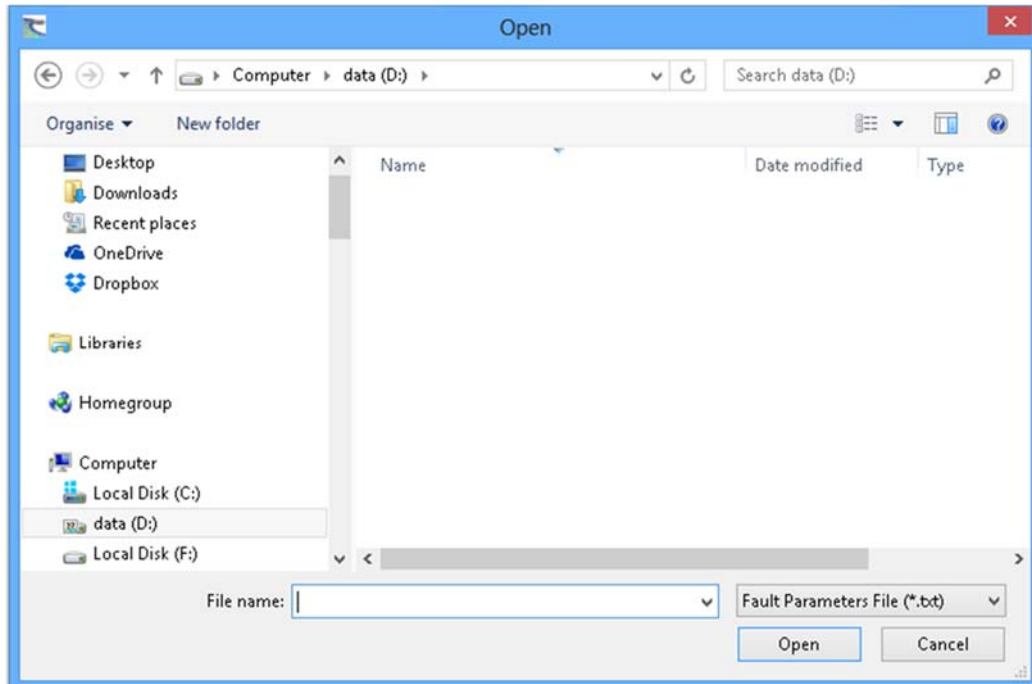

Figure 9 — Example dialog for selecting a fault parameter file
The dialog shown in Figure 9 will open. Select the fault parameter file you want to load and click the Open (O) button. This action will load the fault parameters.